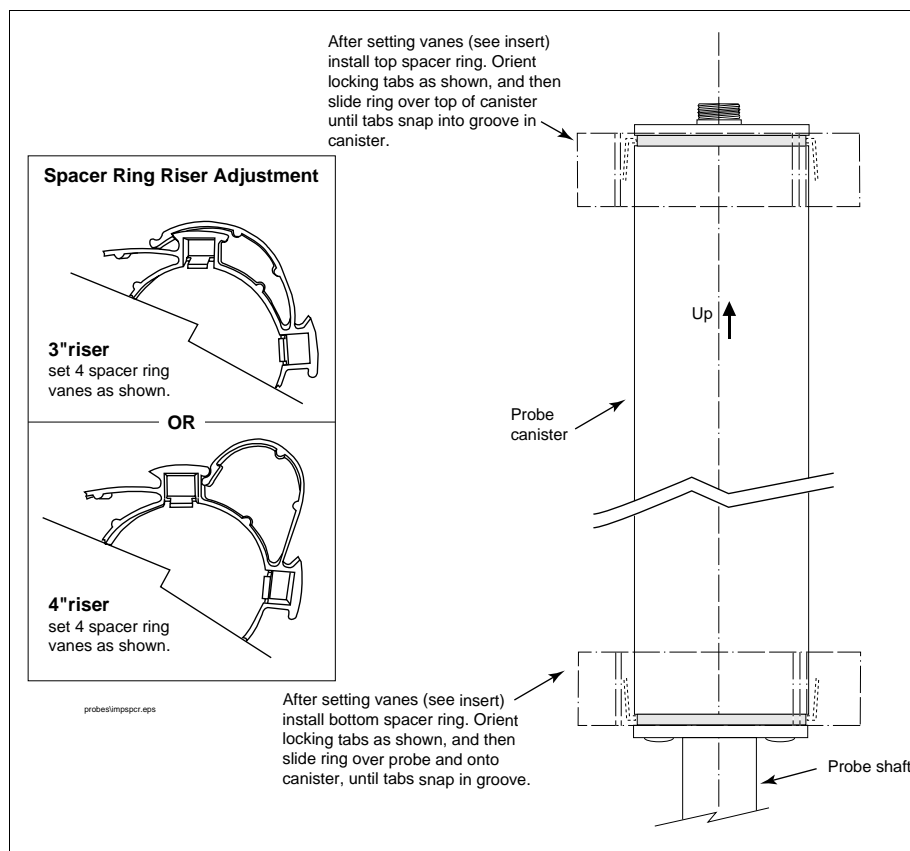

Figure 2.Installing Probe Canister Spacer Rings
2. If you are installing the probe in a 2-inch riser, you will not need the canister spacer rings. If you are installing the probe in a 3- or 4-inch riser, then you will need to slip the spacer rings on the probe canister as shown in Figure 2. Note: you must slide the bottom spacer over the probe shaft and onto the lower end of the canister.